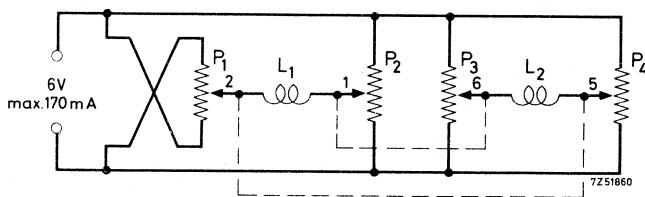

Fig.1
- b. With the tube fully scanned in the vertical direction, the image has to be shifted so that the graticule is fully covered. With the circuit according to fig.1 this is done by means of the ganged potentiometers  $P_1$  and  $P_4$ .